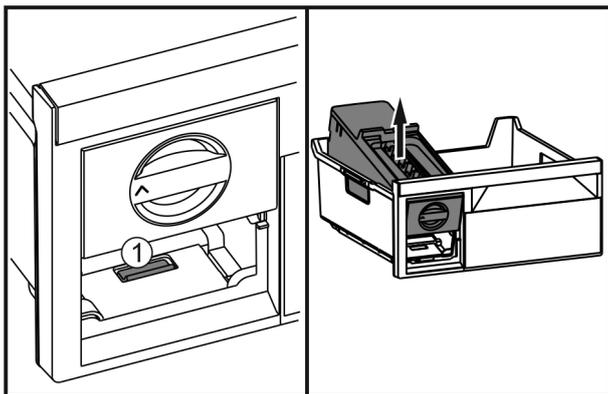

Fig. 80
- ▶ Press the lug Fig. 80 (1), lift up the EasyTwist-Ice at the back and take it out of the freezer drawer.